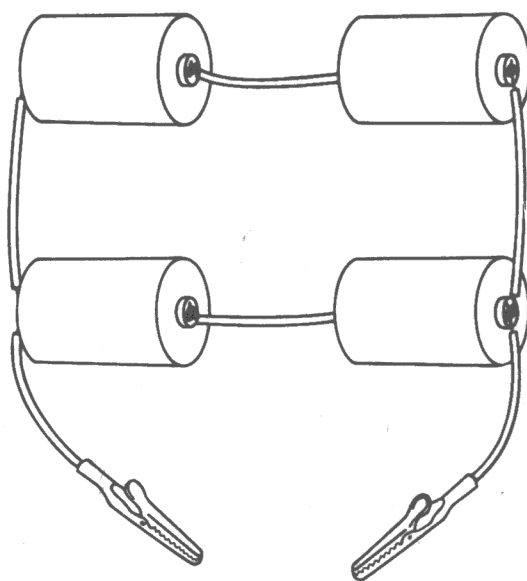

Fig. 26-3
Step 9. Prepare a 3-volt battery by connecting 4 flashlight cells in series-parallel with alligator clip leads for the battery terminals, as shown in Fig. 26-3.